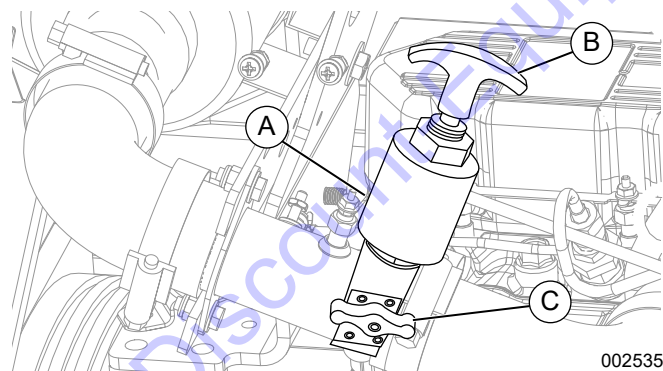

Figure 3-52. Positive Air Shutdown
See **Figure 3-52**. This unit may be equipped with a positive air shutdown (A) on the air intake. The PAS system automatically stops the engine if an overspeed is detected. Engine overspeed can occur if the atmosphere contains elevated levels of combustible propane or natural gas.